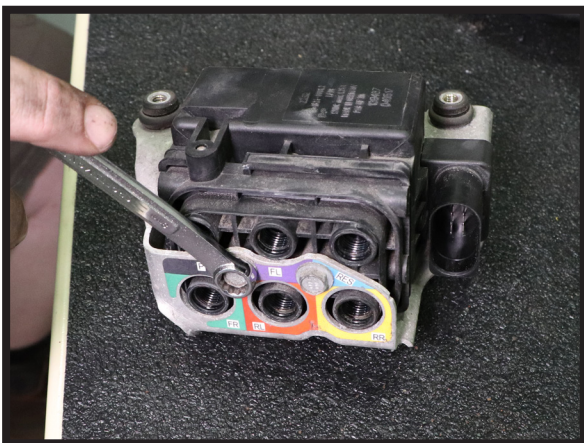

FIGURE 13
1. REMOVE THE BRACKET FROM THE OLD VALVE BLOCK AND PLACE ON NEW VALVE BLOCK. (FIGURES 13, 14)